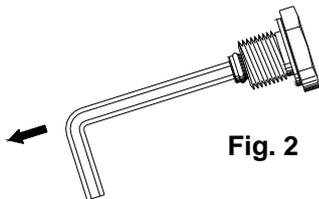

Fig. 2
- Located inside the return plug is the by-pass plug. Remove it with a 4 mm Allen wrench (Fig.2).